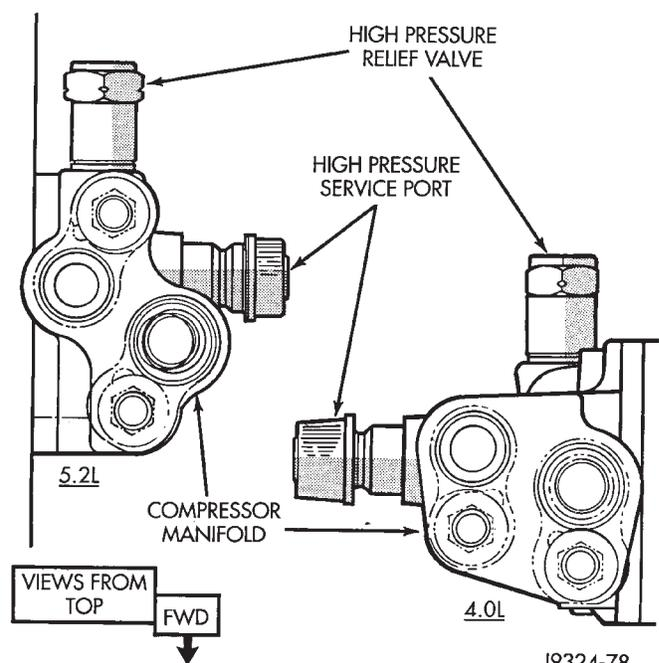

Fig. 54 High Pressure Relief Valve - Typical
- (1) Disconnect and isolate the battery negative cable.
- (2) Recover the refrigerant from the refrigerant system. See Refrigerant Recovery in this group for the procedures.
- (3) Turn the relief valve counterclockwise to remove it from the compressor manifold (Fig. 54). Install a plug in, or tape over the opened relief valve fitting on the compressor manifold.